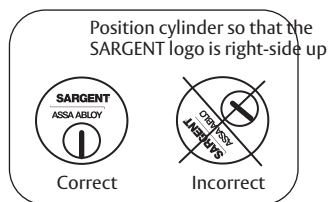

Figure 6-5A
1. Secure cylinder by threading into lock body. Ensure SARGENT logo is positioned at the top of the cylinder (Figure 6-5A)